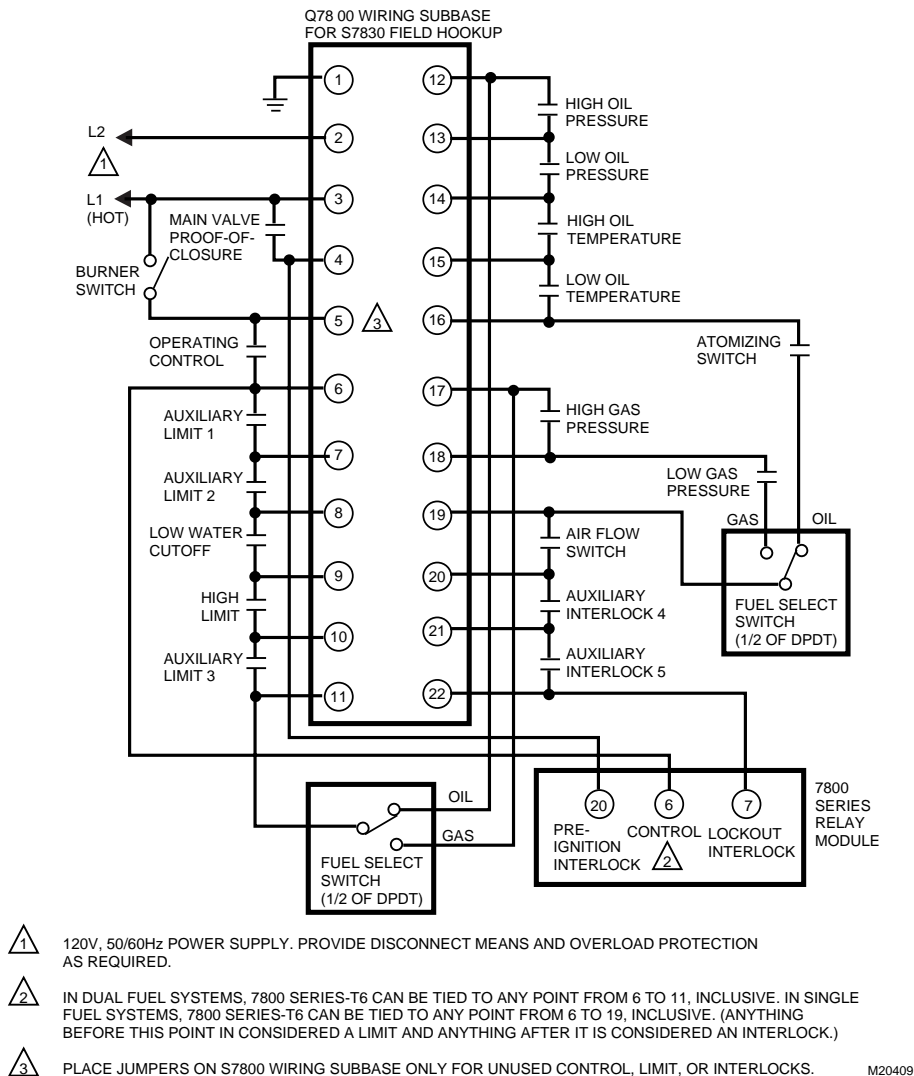

Fig. 3. S7830 wiring hookup.
2. Wiring connections for the S7830 are unique; therefore, refer to Fig. 3 for proper subbase wiring.
6. For combination gas-oil burner applications, a double pole, double throw (dpdt) fuel select switch is required. See Fig. 3.
1. Refer to Fig. 3 for proper subbase wiring. The system wiring must follow the order shown in Fig. 3.
9. Check all wiring circuits (see Fig. 3) before installing the S7830 on the wiring subbase.